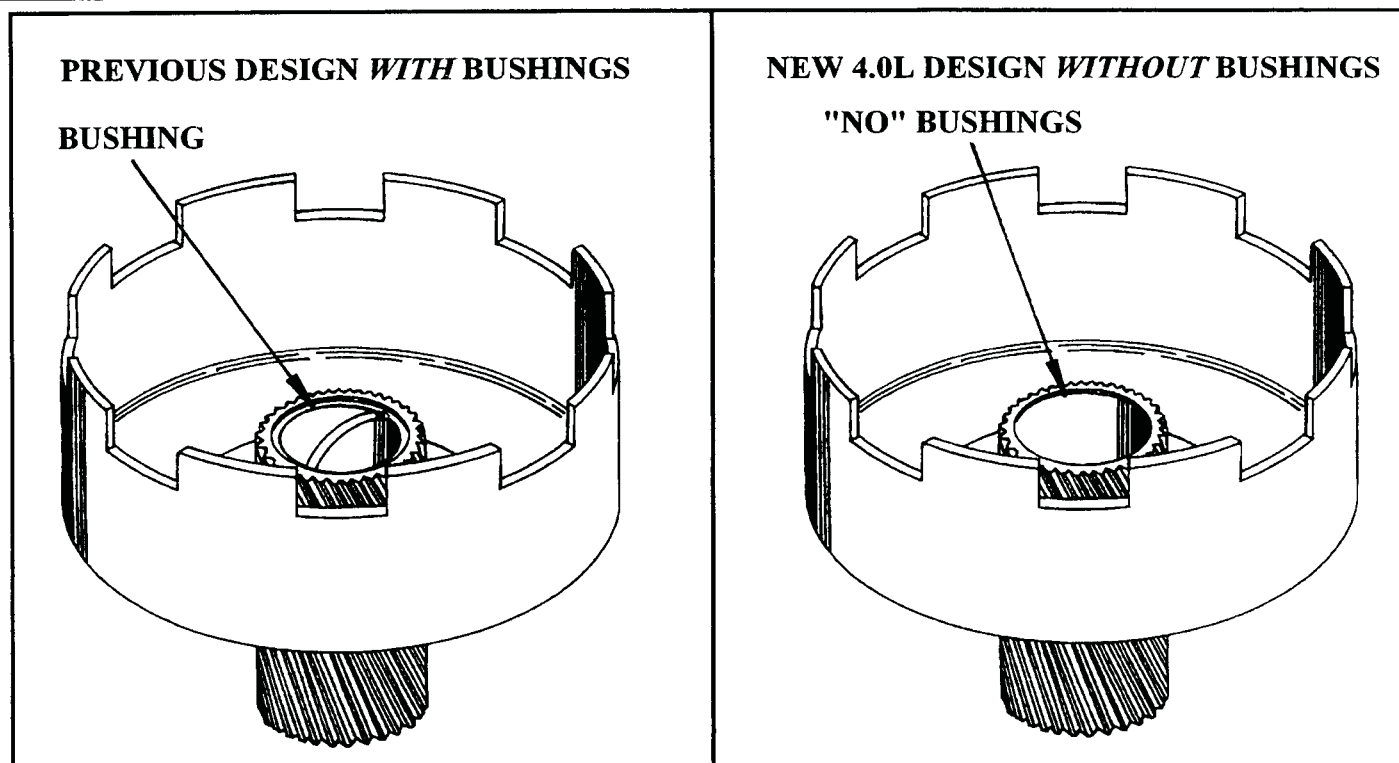

Figure 33
- (2) **SUN GEAR** - Both bushings, inside the sun gear, were eliminated to allow full lubrication flow to the front planetary (See Figure 33).
- (1) The new design sun gear **WITHOUT** bushings **WILL** retro-fit back to all previous models (See Figure 33).
- (2) The previous design sun gear **WITH** the bushings **CANNOT** be used forward into the 4.0L models (See Figure 33).